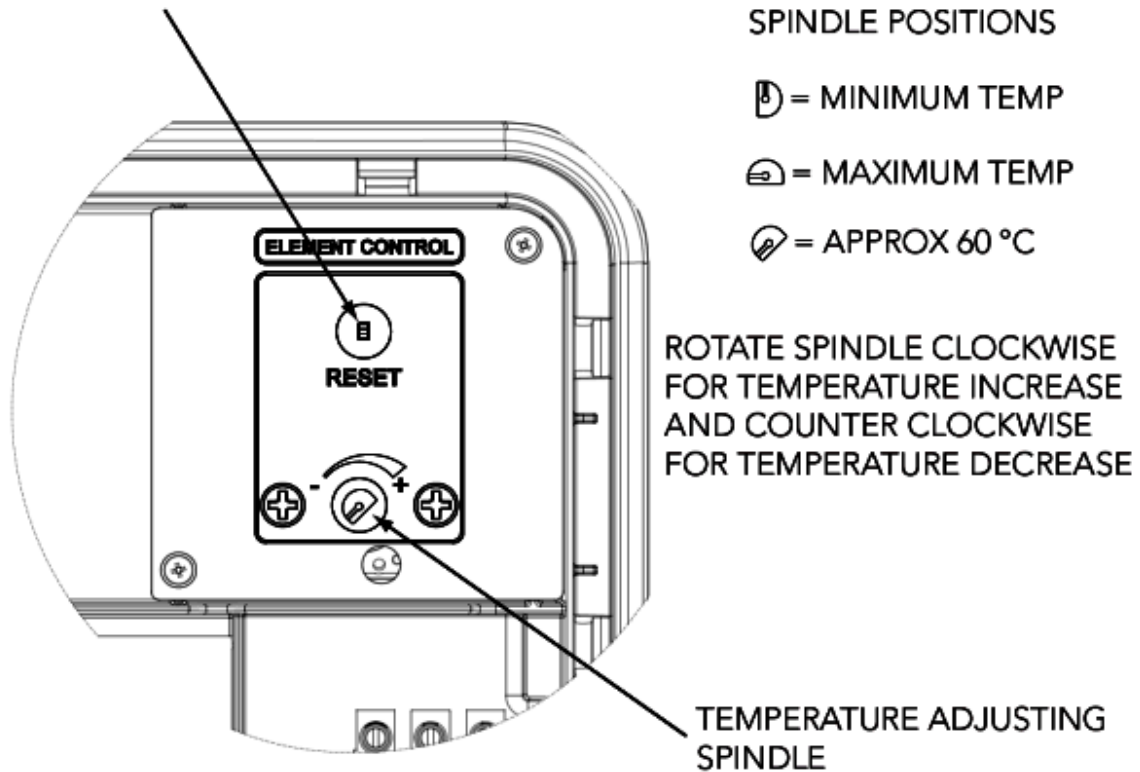

Figure 11: Direct controls
- # Temperature adjustment is made by inserting a flat bladed screwdriver in the slot on the adjustment disc on top of the thermostat and rotating. The adjustment represents a temperature range of 12°C to 72°C. Figure 11.